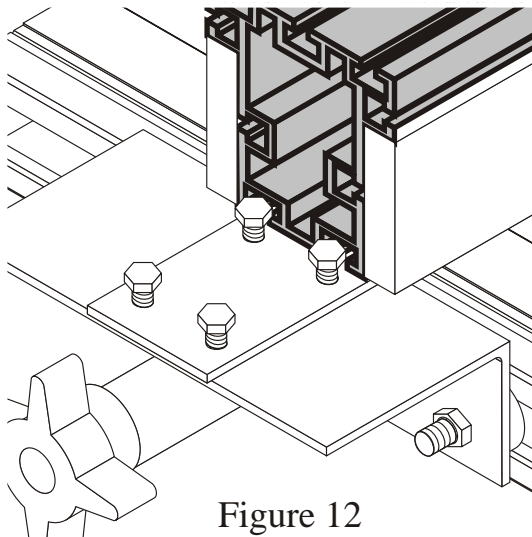
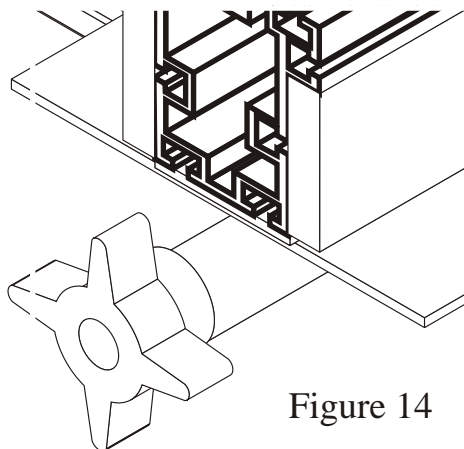

Figure 12
Figure 14
Mount the Fence to the Fence Mounting Bracket (Part #3) by first laying the fence on the table top and position the fence so that the t-slots on the bottom edge of the fence align with the four (4) mounting bolts on the Fence Carriage. (Figure 12 & 13) Lift the bolts up from the bottom as you slide the Fence onto the four the bolt heads. Position the Fence so that the end of the Fence is even with the edge of the Fence Carriage. (Figure 14) Snug the four (4) bolts from the bottom so that Fence is just tight enough not to move on the Fence Carriage. You will tighten bolts fully after fence alignment.